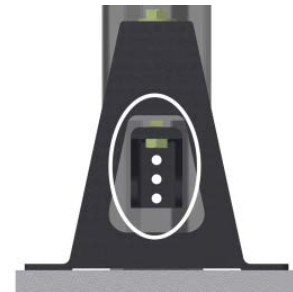

Figure 2: Mark holes of the C-Channel on the legs
4. Mark the holes of the C-channel on the leg and drill using  $1/2$ " drill bit. (Figure 2)